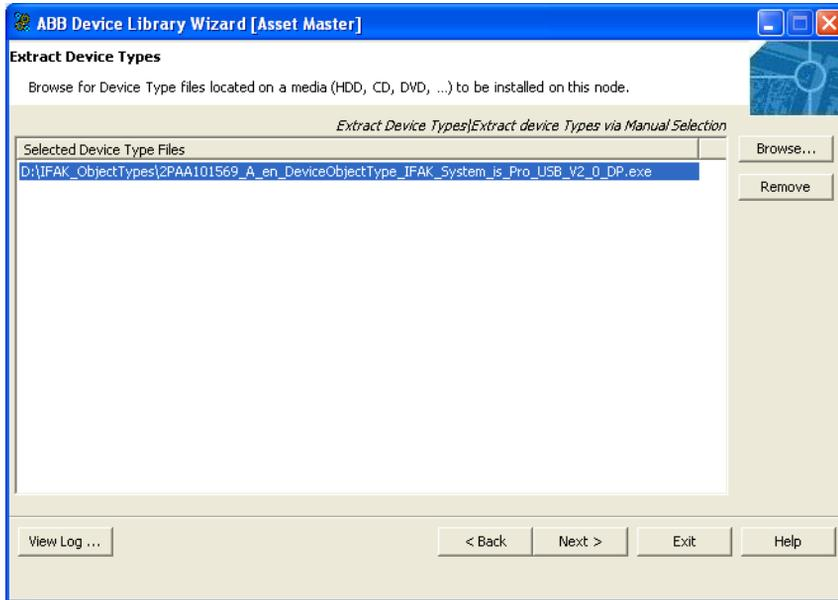

Figure 100. Select Device Object Type from List
8. Select the Device Object Types from the list, as shown in Figure 100, and click **Next**.